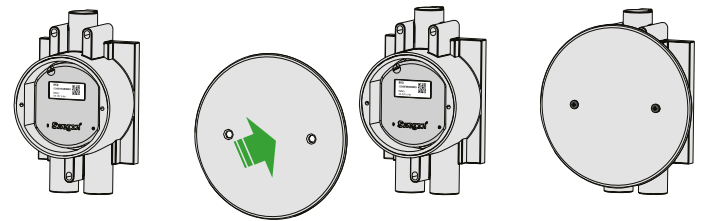

Figure 1. Install in a junction box.
- Fit the cover on the junction box, see figure 1.